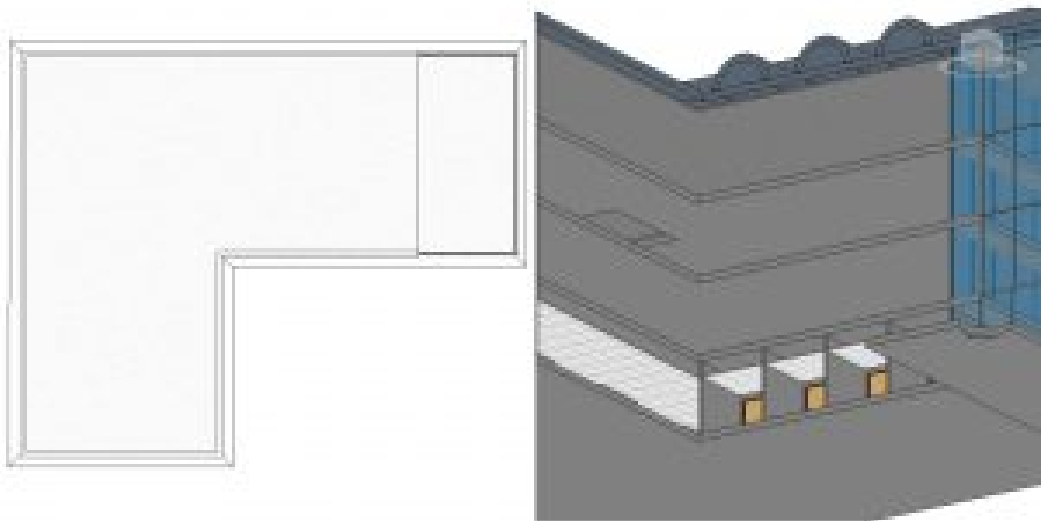

Figure 3.29 View of Level 4 ceiling in plan view and a 3D view looking from the bottom to the top
6. Use the Line tool  and/or the Pick Lines tool  to sketch the ceiling plan in Figure 3.29